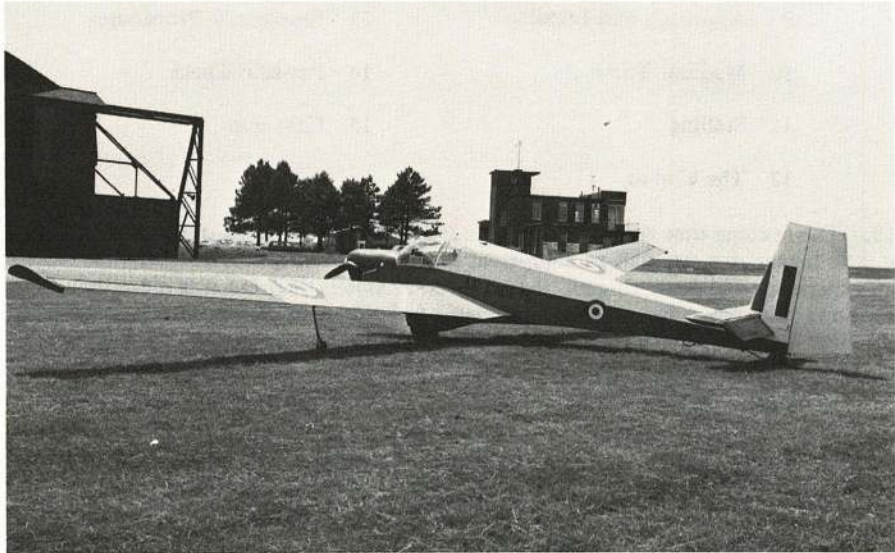

Fig 42 Venture T2 Final View
18. The average time to solo is eight hours' flying. Some learn quickly, others take a little longer, but are just as competent in the end. Flying solo for the first time is an experience one never forgets. It is of course exhilarating, but it is more than that. It shows that you have mastered the basic techniques of flying and have achieved the high standards demanded of a pilot who is to fly as Captain of a Royal Air Force aircraft—which is precisely what you are when piloting solo an Air Cadets glider (Fig 42).